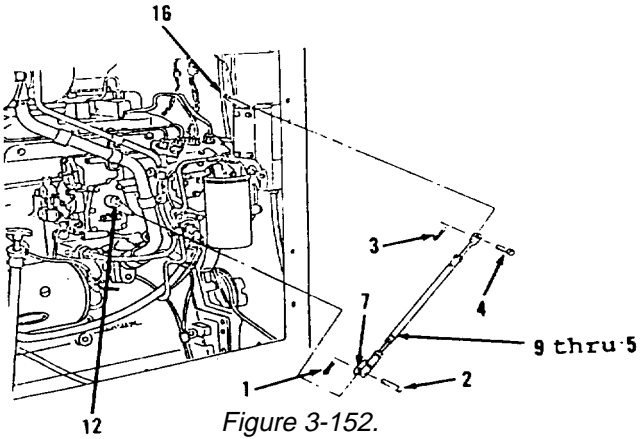

Figure 3-152.
- 68. Position items 9 thru 5 as an assembly (Figure 3-152).
- 69. Install pin (4) and new cotter pin (3). Do not bend back cotter pin (3) at this time.
- 70. Install pin (2) and new cotter pin (1). Do not bend back cotter pin (1) at this time.